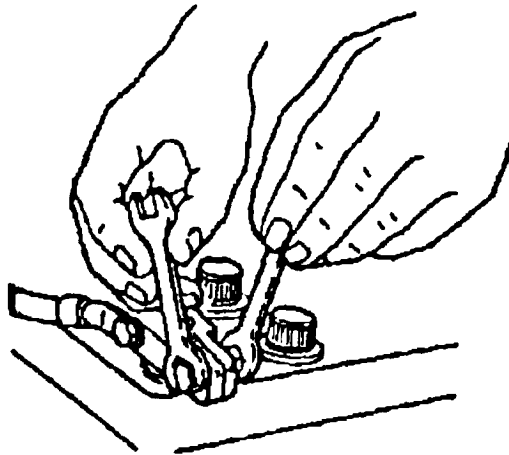

Figure 3-8
- (1) Take off the negative (-) battery terminal clamp first. Remove the hexagonal nuts on the end of the clamp (See Figure 3-8).